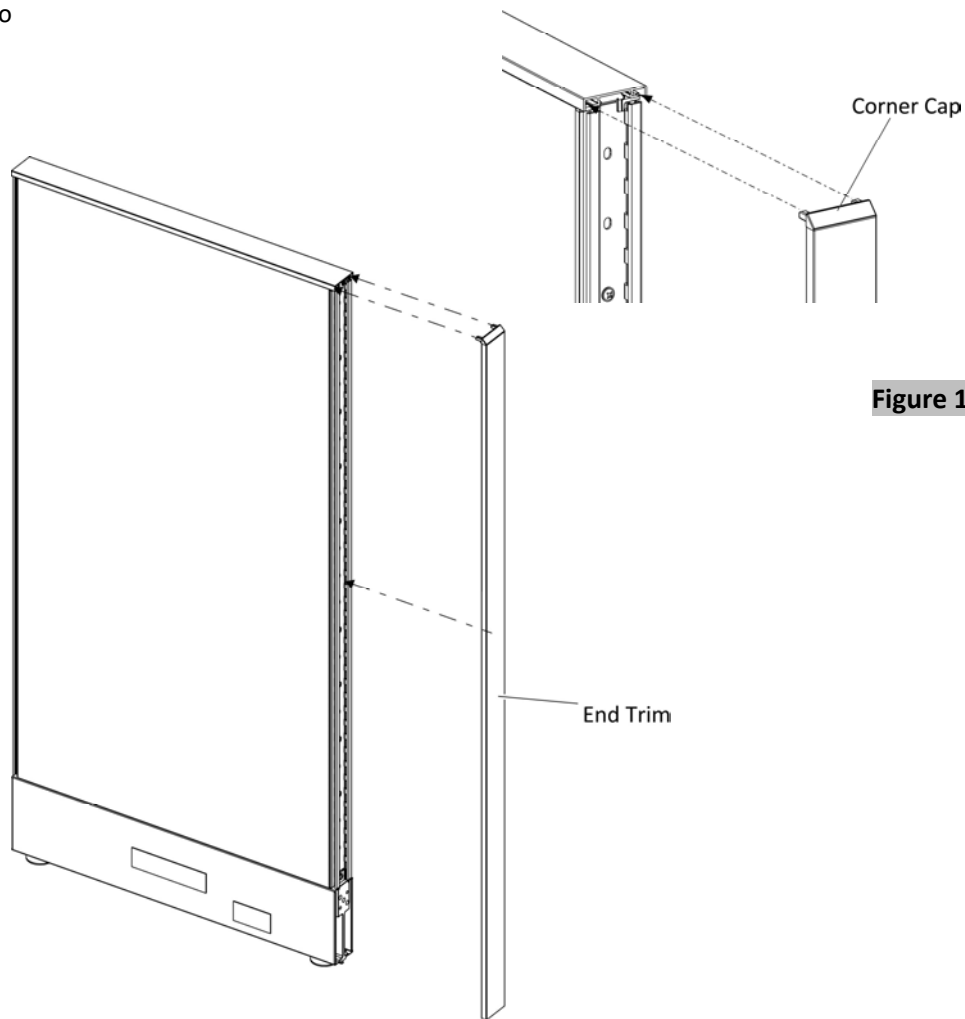

Figure 1
- 1. Install end trim by inserting the corner cap with end trim into the top trim and pressing end trim into the vertical extrusion, (Figure 1).